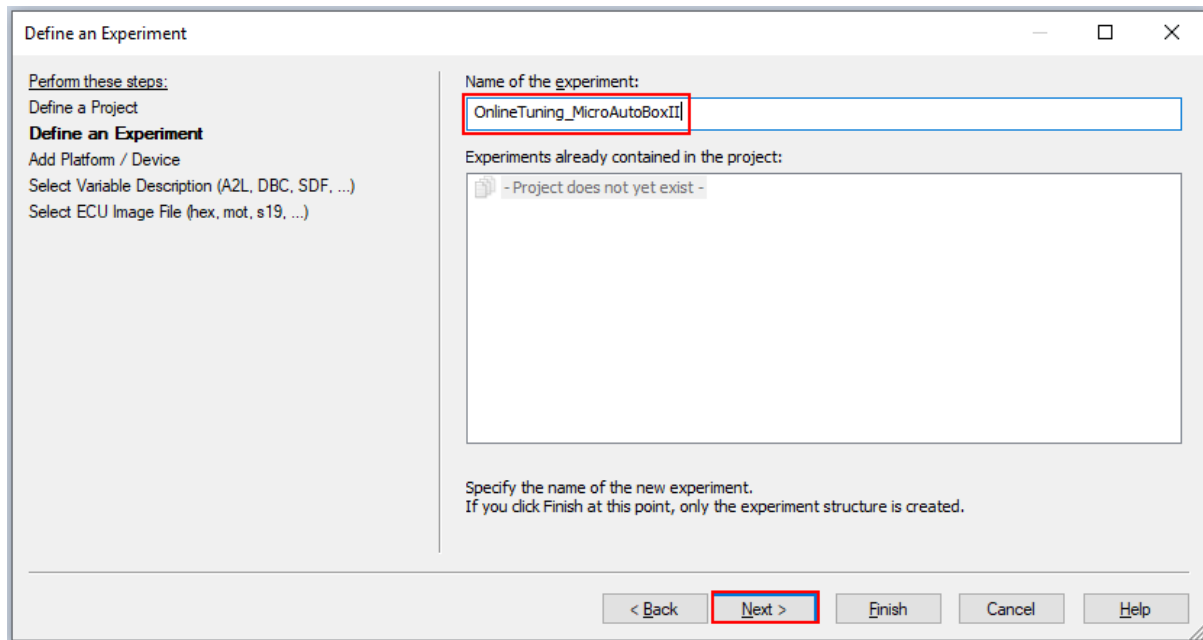

Figure 6.10: Name your experiment
- 7) Name the project and the experiment (see Figure 6.9 and Figure 6.10).